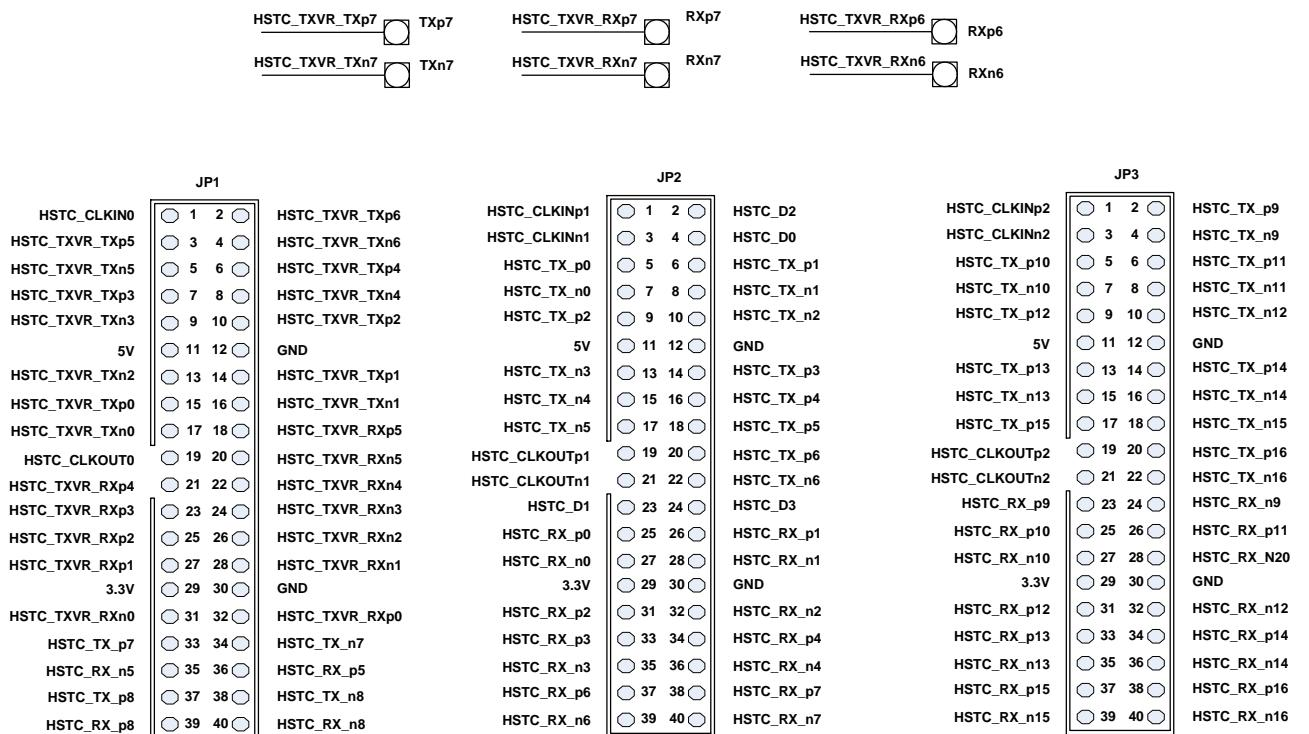

Figure 4.4 Pin distribution for the three expansion headers
3. Figure 4.4 shows the pin distribution for the three expansion headers on the THDB-H2G board. The signal names in Figure 4.4 are mapped to the Quartus II project created by DE3\_System\_builder.